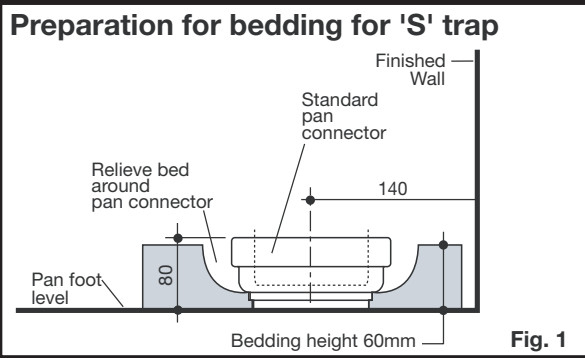

Fig. 1
The 'S' and 'P'-Trap pan installations are detailed in **Fig 1 & 2**. The recommended set-out for 'S'-Trap installations is 140mm from the finished wall. **It is important to position the pan collar 80mm Max. from the foot level of pan as detailed in Fig. 1.**
- 3- Prepare bedding sand cement mixture 3:1 to depth of 60mm as detailed in **Fig.1.**